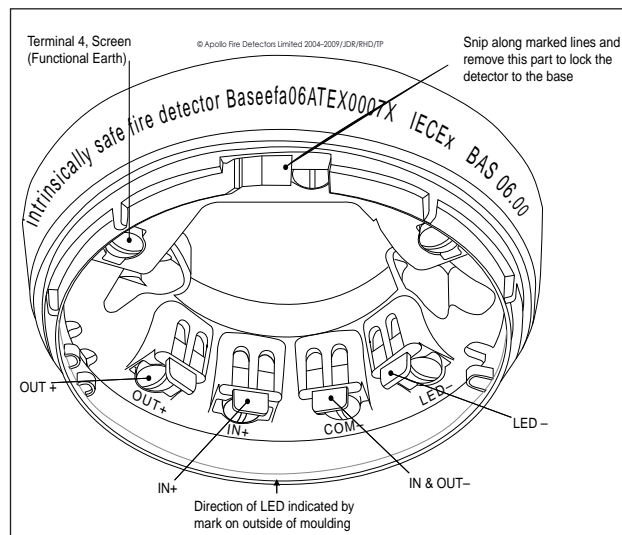

Fig 1 Orbis IS base terminals
1. Activate the locking mechanism if the detector is to be locked into the base. To do this, remove the small portion of plastic shown in Fig 1 with side cutters or similar tool.
3. Fig 1 shows the wiring terminals. The terminal marked '4' on the base is provided for connecting the screen or functional earth.